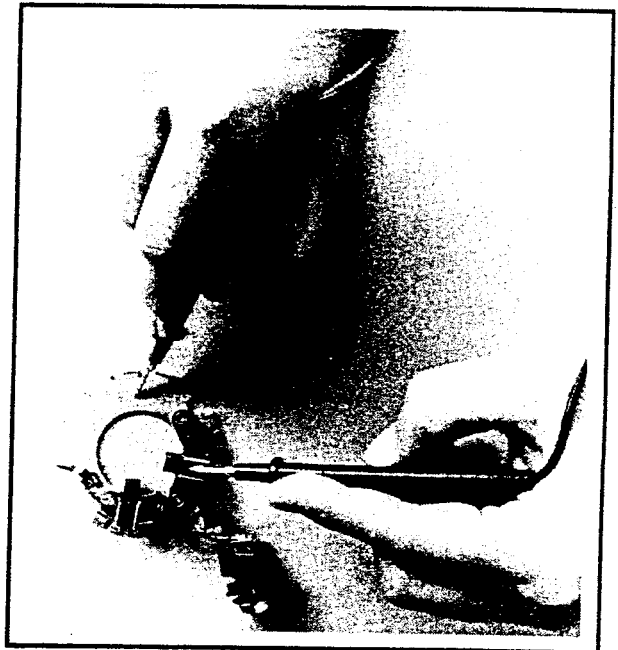

Figure 4-39. Brush Holder Insulation Test
8. See Figure 4-39. Test BRUSH HOLDER INSULATION with an ohmmeter or continuity tester. Touch one probe to holder plate and the other probe to each of the positive (insulated) brush holders. There should be no continuity (infinite ohms). If there is continuity at either brush holder, the brush holder assembly should be replaced.